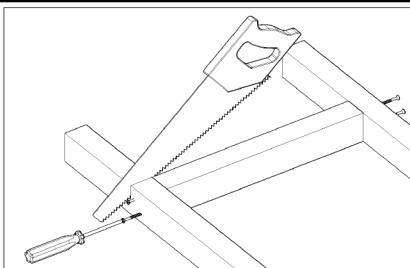

Figure 2
- Unscrew the frame's end piece and fasten it to the right place. After that, cut the sauna bench frame and front plank to the right measure. (Figure 2)